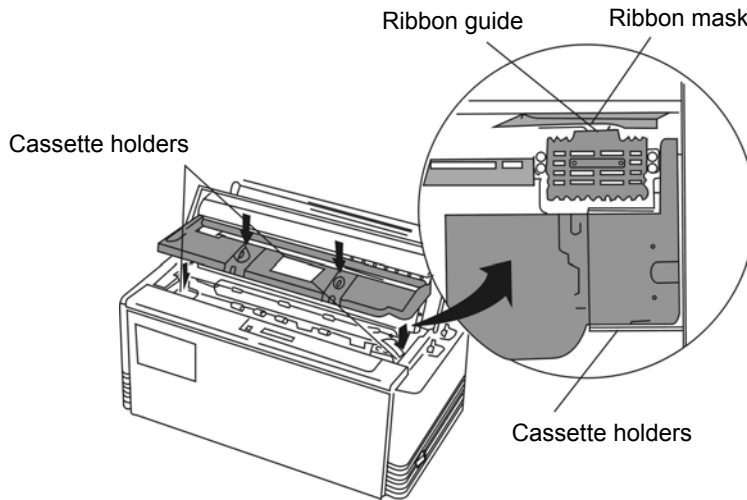

Figure 2-8 Installing the ribbon cassette
5. Place ribbon cassette into the cassette holders on the right and left sides, ribbon should be in the ribbon guide. Check and make sure the ribbon drive shaft on the left side of the cassette holders has plugged into the holes on the ribbon cassette bottom. (As shown in Figure 2-8)